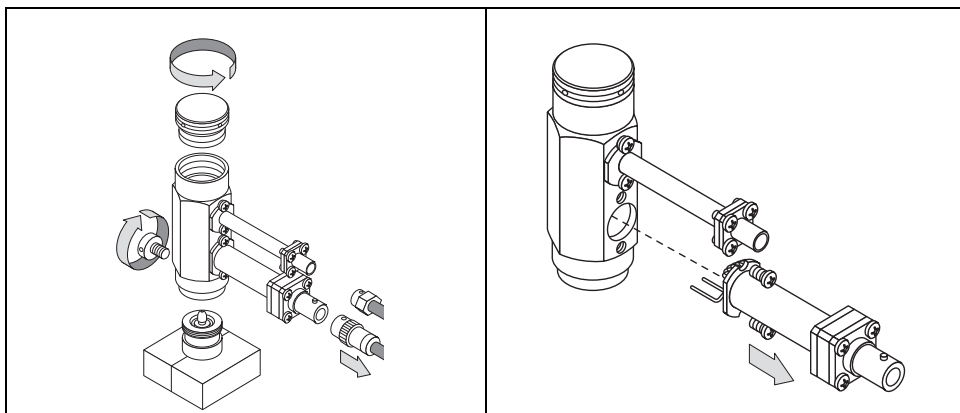

Figure 15-19. Replace the Ignition Assembly (1).
4. Disconnect the signal and ignition polarization cables from the detector. See Figure 15-19.
5. Loosen the fixing screw on the front of the detector cell and remove it. See Figure 15-19.
6. Unscrew the two fixing screws and remove the lower connector holder assembly from the detector cell. See Figure 15-19